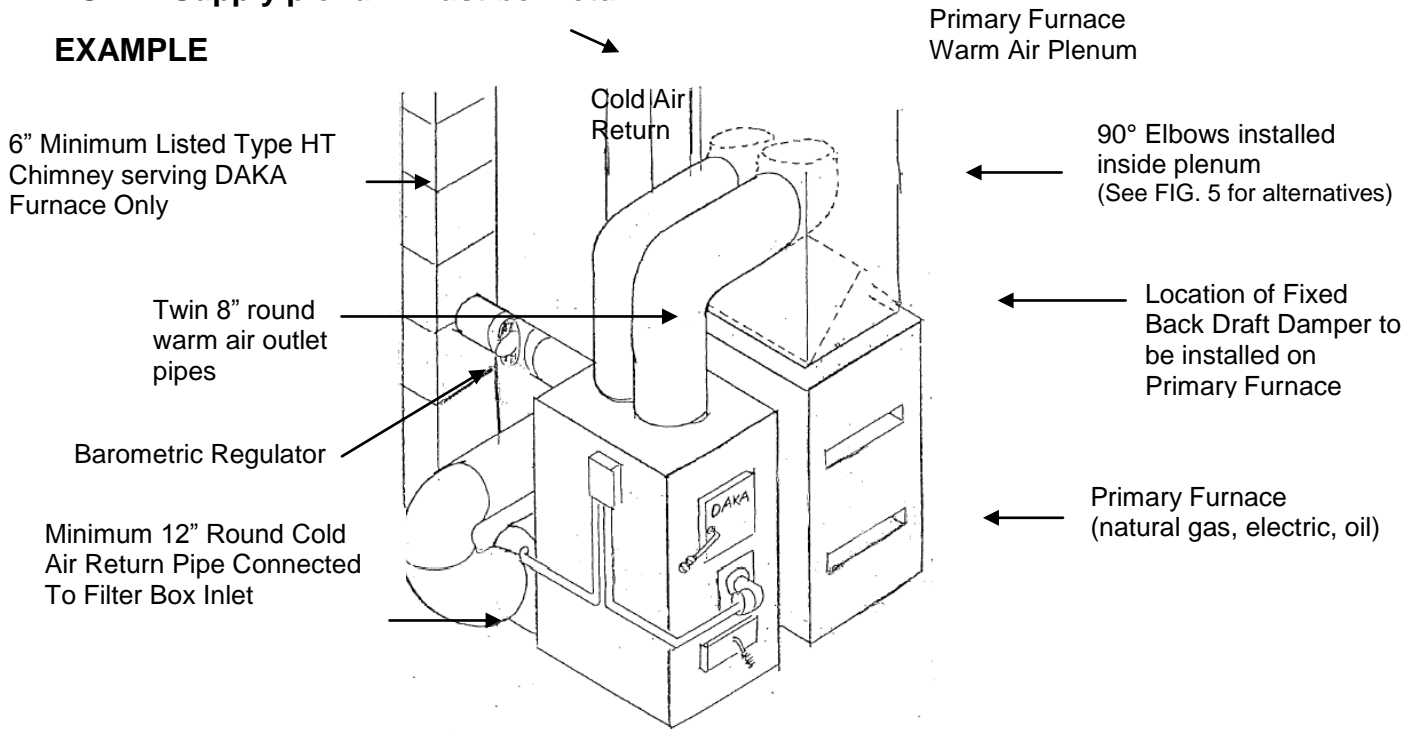

FIG. 2 – Typical Independent Central Furnace Installation
B. For Use As A Central Furnace – See FIG. 2